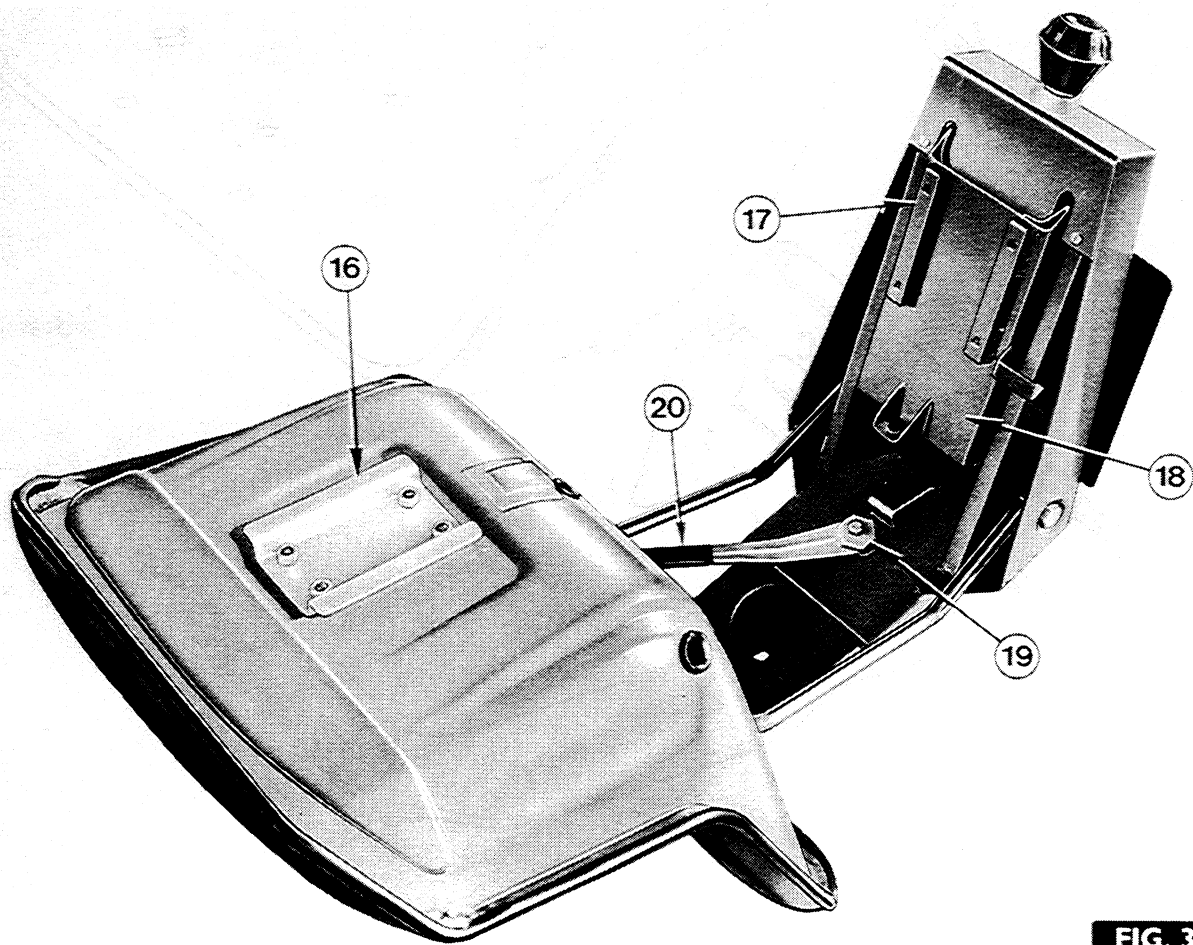

FIG. 3
The seat pan is mounted on nylon bearings to the front of a tubular swing arm (1, Figure 2), the swing arm in turn, is mounted on nylon bushes and bolted to the seat pillar (2). A bracket (16, Figure 3) bolted to the seat backrest, locates on runners (17) with
A control lever (20, Figure 3) situated on the bottom of the seat frame allows the seat to be locked in any position on the seat riser. With the lever in the central position, the seat can be moved on its runners, along the riser, giving fore, aft and height adjustment. The seat is locked in the selected position by moving the lever to the right.
7. Remove the snap rings and washers retaining the spring loops to the spring adjuster (6) and remove the adjuster.
8. Remove the snap rings retaining the pin (8) to the bottom of the channel section plate and withdraw the pin. The nylon spacers (9) and piston end of shock absorber (10) can now be removed.
10. Remove the bolts (15) securing the tubular swing arm and nylon bushes to the seat pillar.
11. Remove the bolt (19, Figure 3) securing the seat locking lever (20) to the seat and lift off the lever. The large bolt beneath the locking lever can now be removed to release the locking plate, situated beneath the top face of the seat riser.